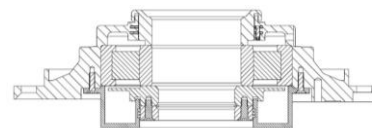

Figure 7.3: Bearing with grease fitting and grease reservoir
The relubrication of rolling bearing, as shown in Figure 7.3, common for vertical motors, must be done as follow:
3. The excess of grease comes out from the bearing to the grease reservoir, as Figure 7.3;